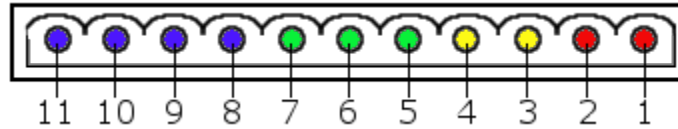

Figure 5-3 - Connector Pins
- Make sure the terminals are wired as shown in Figure 5-3 on page 5-3; failure to connect power correctly could result in irreversible product damage that is **NOT** covered by warranty.
5. Connect the wires as follows; refer to Figure 5-3 below:
6. Connect power and input/output connections to the controller; refer to Figure 5-3 on page 5-3.